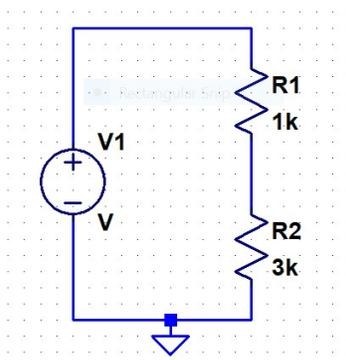

Figure A-3. Voltage Divider Circuit
Figure A-3 is a picture of the *LTspice IV* main screen with the circuit we will be drawing.
- Simulate the circuit shown in Figure A-3, setting the values of the resistors and remembering to include the ground node.